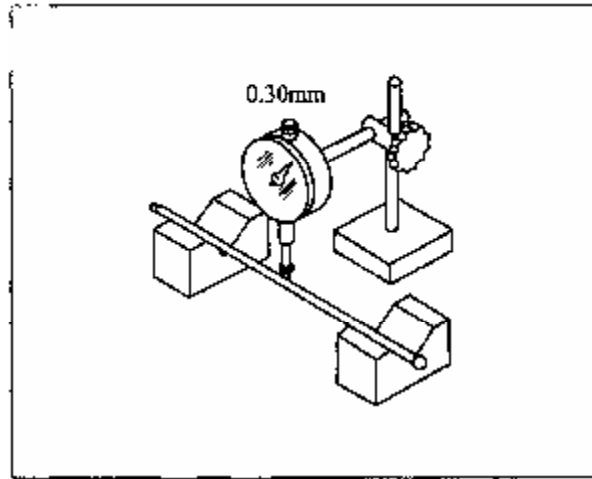

Figure 3-18 Check Run-out at Middle of Push Rod
(1) Follow figure 3-18 to check run-out at middle of push rod. The maximum value is 0.30 mm . If the value exceeds the maximum, replace the push rod.
(2) Check oil passage hole of push rod for clogging. If clogging is present, use compressed air to clear up.